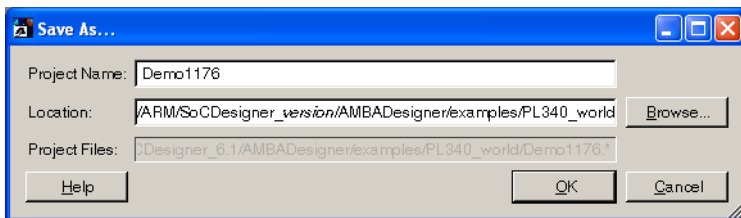

Figure 7-6 Saving the system
2. Enter Demo1176 in the Project Name field of the Save As... dialog box, as Figure 7-6 shows.